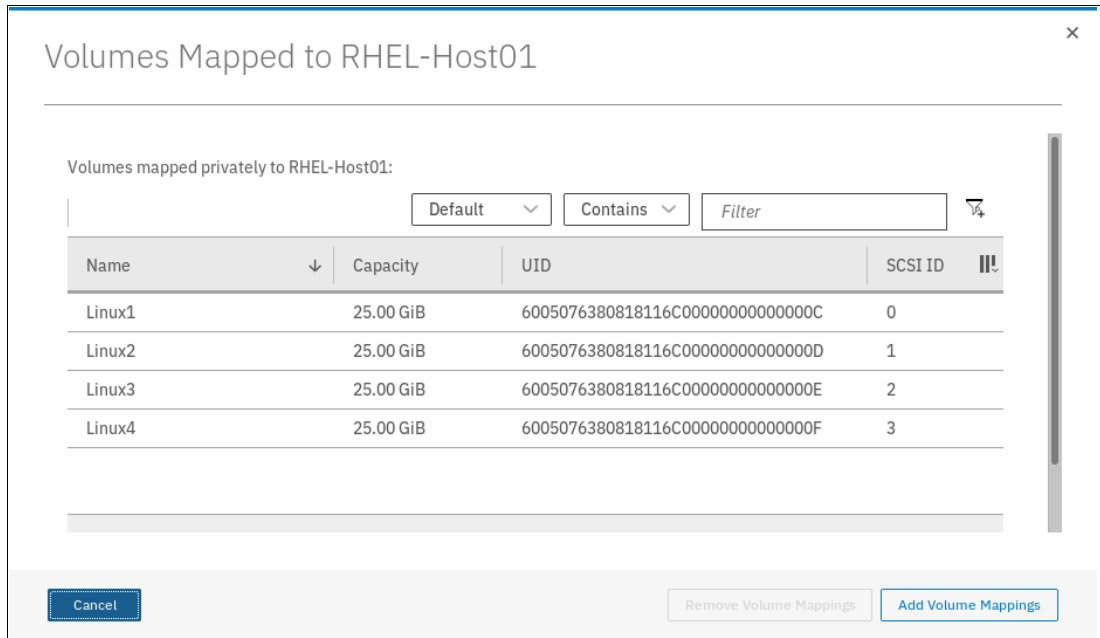

Figure 8-4 Host mappings window
1. From the Hosts window, select a host and click **Actions**. Then, select **Modify Volume Mappings** to open the Modify Host Mappings window, as shown in Figure 8-4.